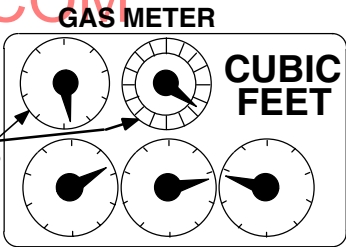

FIGURE 69
- 4 - At the gas supply meter and using either one-, two-, three- or five-foot dial on the meter, time one full revolution (in seconds) with a watch. See figure 69.